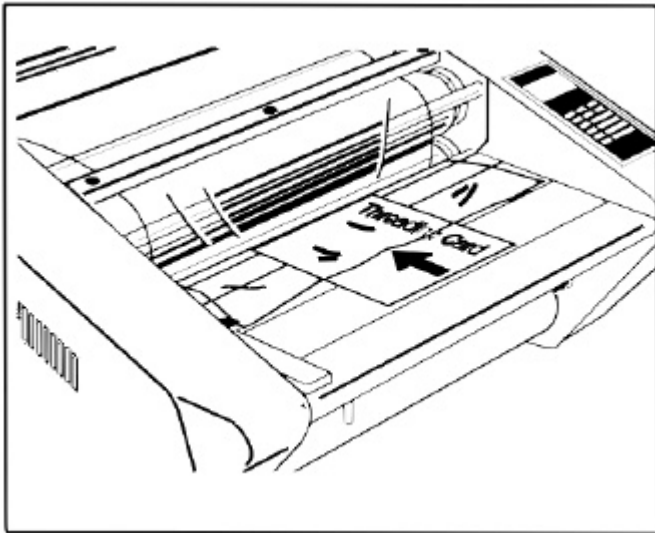

Fig. 15
15. Slide the threading card between the feed tray and the film web lying on the tray, and gently push into the nip area of the heat rollers (Figure 15).